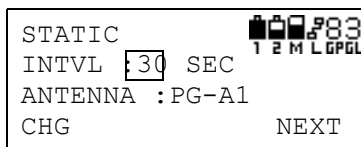

Figure 3-16. Press F1 to Edit the Observation Interval
2. With the interval parameter highlighted, press the **F1** (CHG) key to edit the parameter (Figure 3-16).